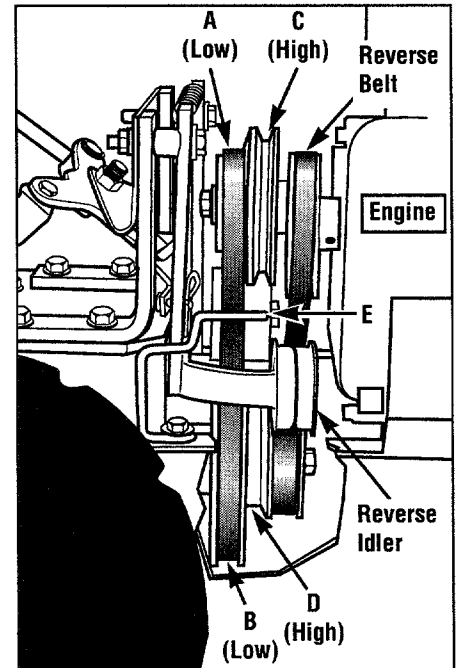

Figure 4-14: Right-side view of engine and transmission pulleys (engine is at right-side of view).
4. From beneath the tiller, move the forward drive belt out of the transmission low speed groove (B, Figure 4-14) and into the high speed groove (D).
5. Pull upward on the belt to remove any slack and slip the belt out of the engine drive pulley low speed groove (A, Figure 4-14) and into the high speed groove (C).
6. Check that the belt is within the forward belt guide (E, Figures 4-14 and 4-15) on the right-side of the unit and is within the forward idler (F, Figure 4-15) on the left-side. Be sure that the belt is situated in the center grooves (C and D, Figure 4-14) of the engine (upper) and transmission (lower) pulleys.
4. From beneath the tiller, move the forward drive belt out of the transmission pulley high speed groove (D, Figure 4-14) and into the low speed groove (B).
5. Pull upward on the belt to remove any slack and slip the belt out of the engine drive pulley high speed groove (C, Figure 4-14) and into the low speed groove (A).
6. Check that the belt is within the forward belt guide (E, Figures 4-14 and 4-15) on the right-side of the unit and is within the forward idler (F, Figure 4-15) on the left-side. Be sure that the belt is situated in the rear grooves (A and B, Figure 4-14) of the engine (upper) and transmission (lower) pulleys.